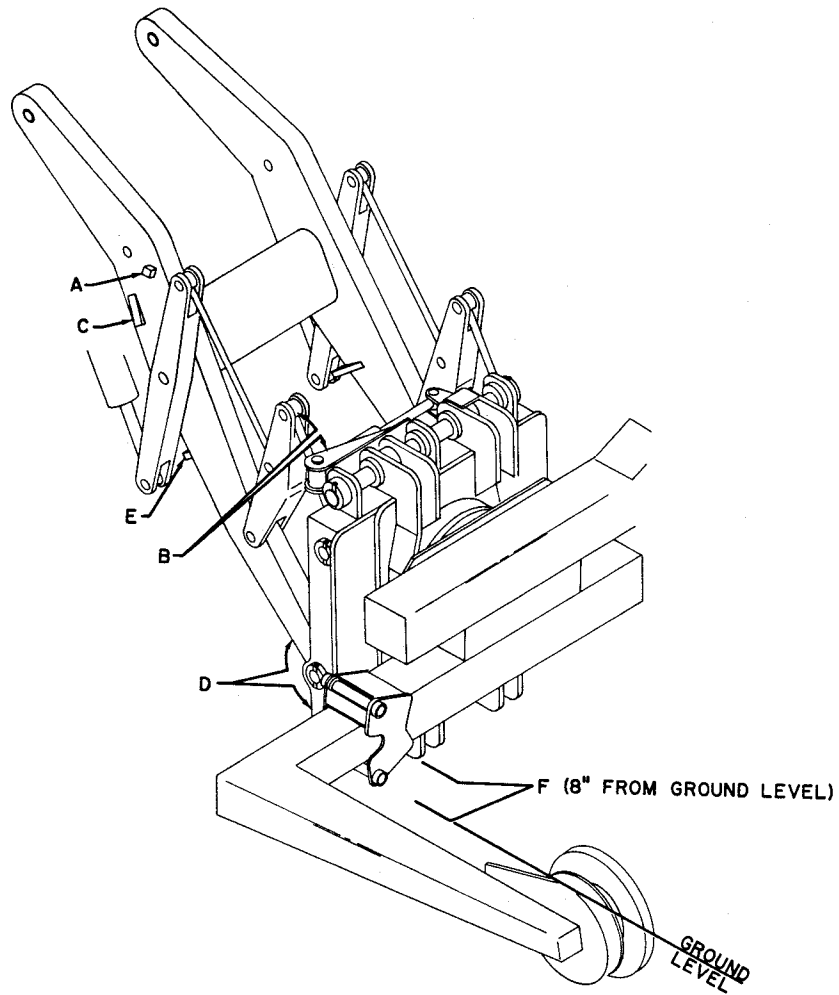

Figure G-9. Stop Block Positioning
20. Tilt the Tirehand back as far as it will go without causing any interference at point "B" (Figure G-9). Weld stop block "A" to the boom of the carrier vehicle. It must be flush against the linkage arms.